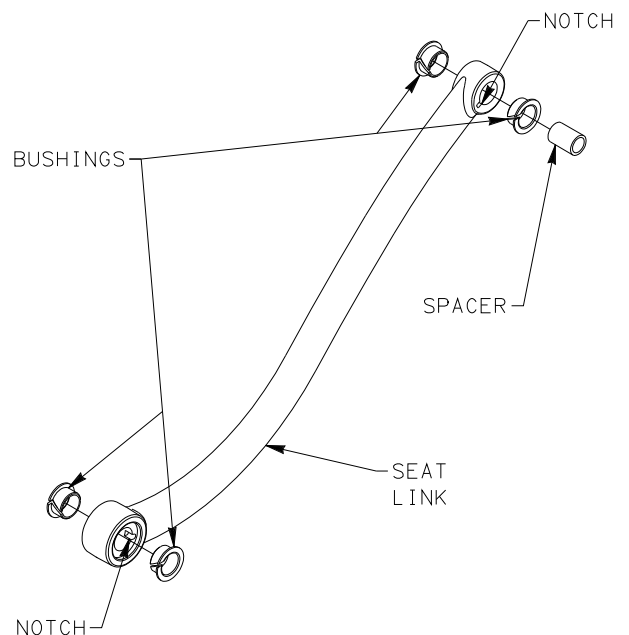

FIGURE 2
3. REMOVE AND DISCARD (4) BUSHINGS FROM SEAT LINK. INSERT (4) REPLACEMENT BUSHINGS INTO SEAT LINK ORIENTING BUSHINGS TO NOTCHED AREA IN SEAT LINK. REPEAT FOR OPPOSITE SIDE. SEE FIGURE 2.